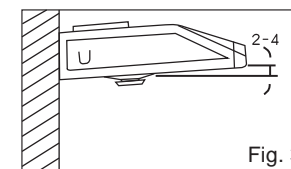

Fig. 3
3. Hood installed in parallel and horizontal level (Fig.3)